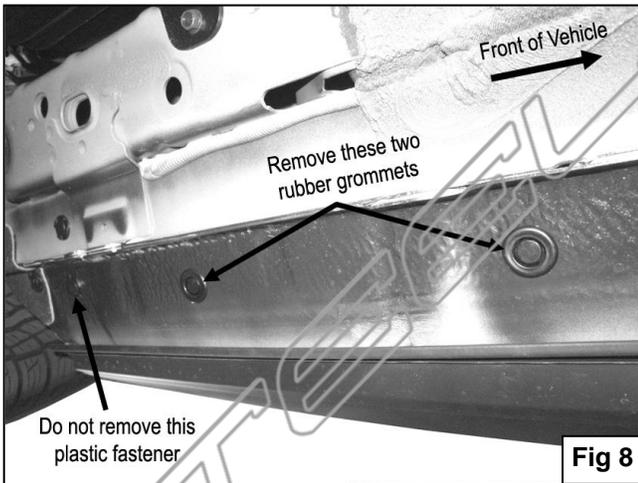

Fig 8
7. Remove the two rear rubber grommets in the bottom of the body located in the outside of pinch weld (**Figure 8**). **NOTE:** Do not mistaken the very last plastic fastener with a rubber grommet.